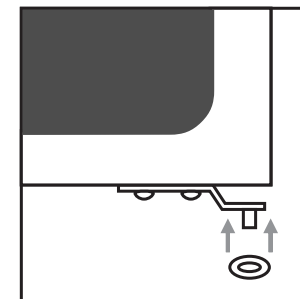

Fig. 8c
- Slide the door into the lower hinge. Place the ring between the hinge and the hinge holder (see Figure 8c).